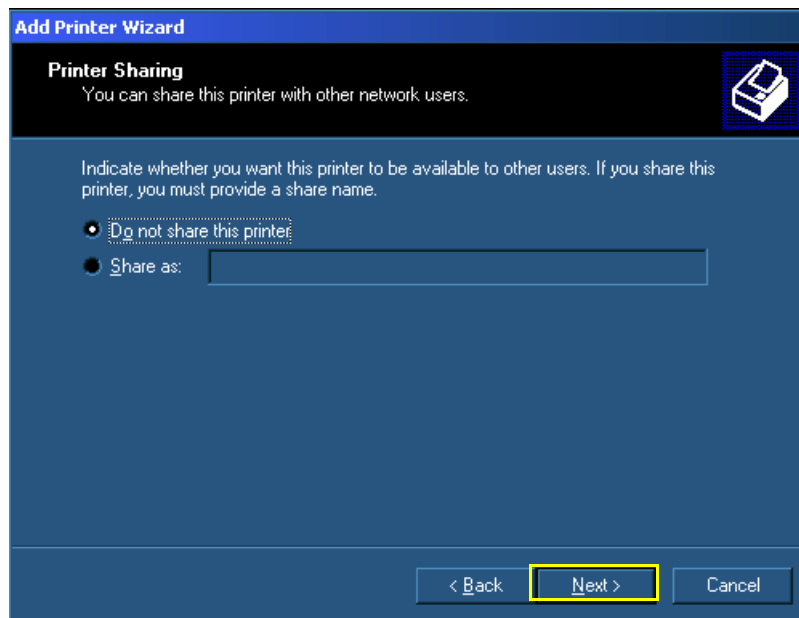

Figure 8-143 Printer Sharing Message
- 18.) When the following message appears, verify that **Do not share this printer** is selected, as shown in Figure 8-143.